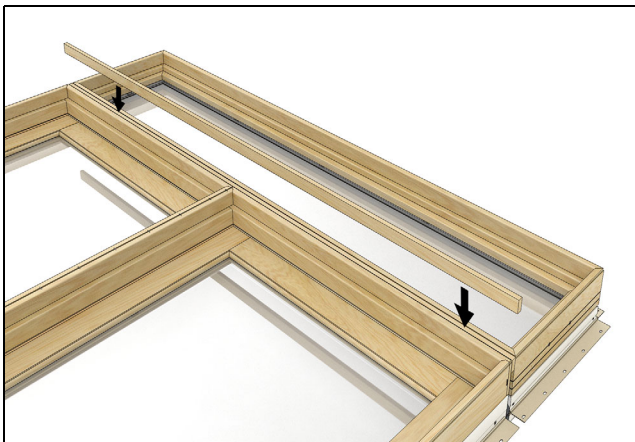

Figure 32
13. Insert 1/2" mull support on top of the MRF between the cavity of the two frames. Ensure the mull support is flush with the interior plane of the unit frames. See Figure 32.